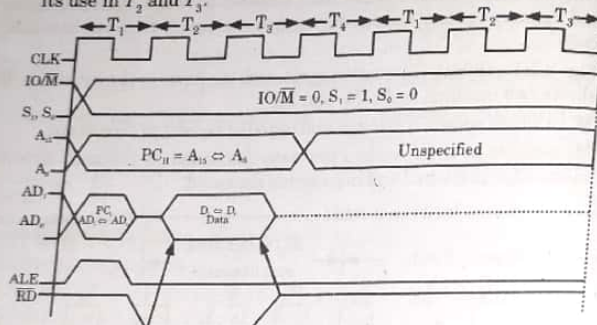
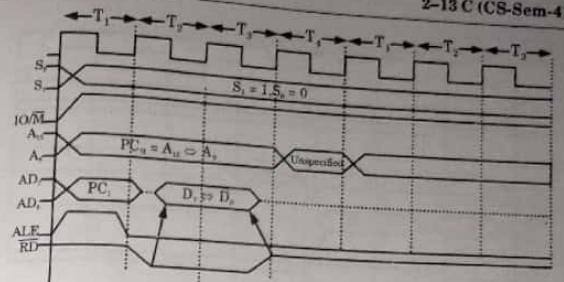

Fig. 2.8.1. Memory read timing diagram.
Fig. 2.8.2. I/O read timing diagram.
2. The timing diagram for $IO/\overline{M}$ read are shown in Fig. 2.8.1 and Fig. 2.8.2. $A_{15} \leftrightarrow A_8$ remains valid in T_1 , T_2 and T_3 i.e., duration of the bus cycle, but $AD_7 \leftrightarrow AD_0$ remains valid only in T_1 .